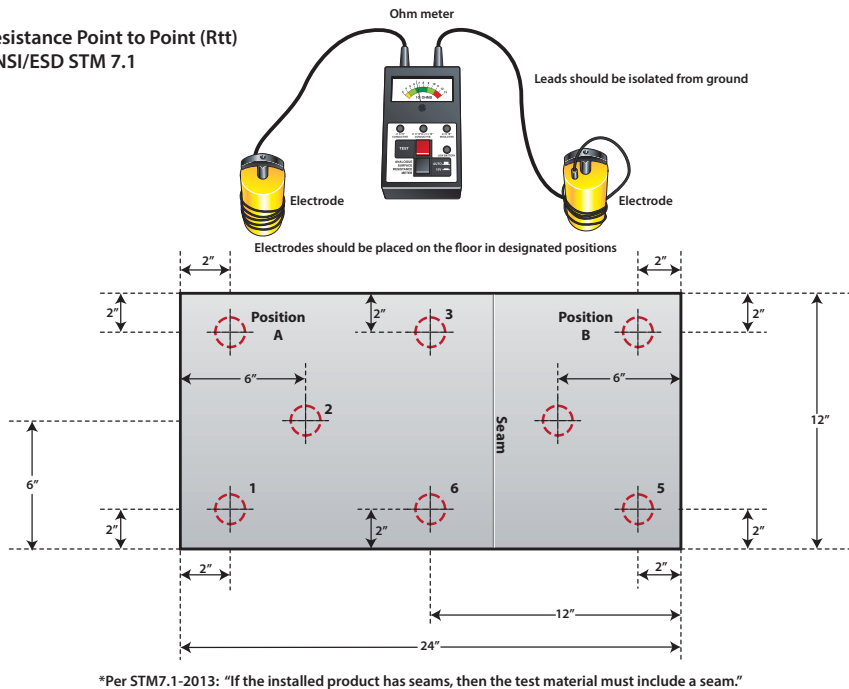

Figure 4: Using the test leads and two 5 pound electrodes to measure Rtt
5. Set the Test Voltage Button to AUTO. Press and hold the TEST button until the measurement is displayed (see Figure 4).